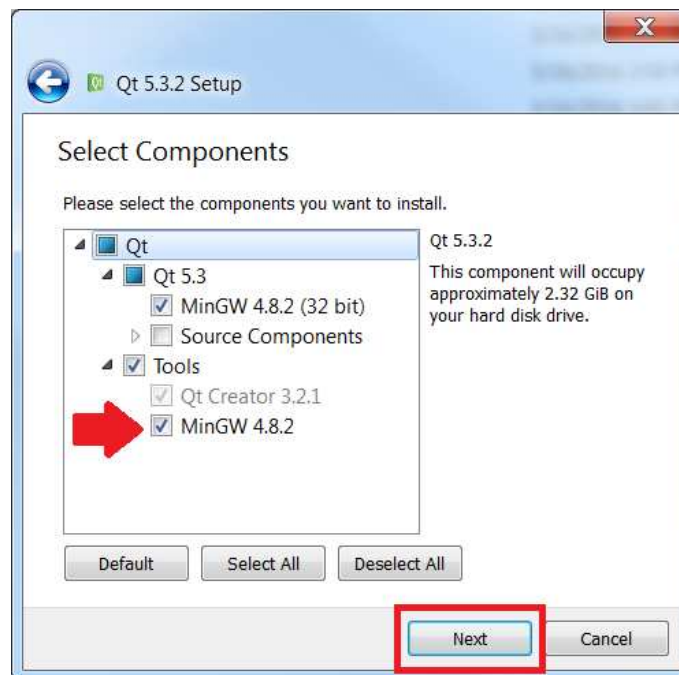

Figure 5. Install Components
4. In the “Select Components” window, expand the “Tools,” drop-down. As indicated in Figure 5, check the box next to MinGW 4.8.2. Click “Next.”